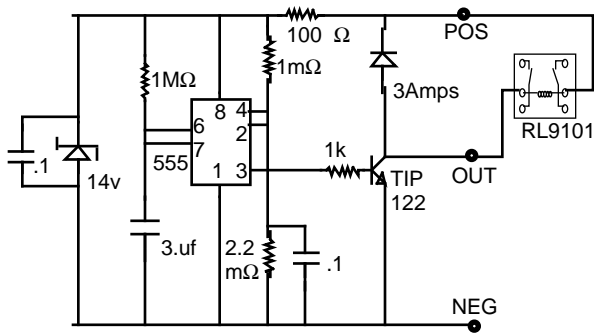

Figure 3a
- The controller can be held at full throttle (during REGEN) by pulling pin 5 of IC 5 high to VS through a 100 k Ω resistor. Older models (board 98627C) needed a 47 k Ω resistor. The pull-up resistor should be the same value as R62. IC 5 is the fifth IC from the end with KSI and pot terminals on it. VS is the only square pad on the test terminals on the top of the board. I connected both the current limit adj. and the pull-up resistor through a DPST relay with shielded wire inside the controller. The DPST relay needs a small delay (two/tenths of a second) to prevent the REGEN from turning on before the contactors have finished switching (Figure 3a, next page). Switching the contactors under load will cause them to melt down and could ruin the controller with high voltage spikes.